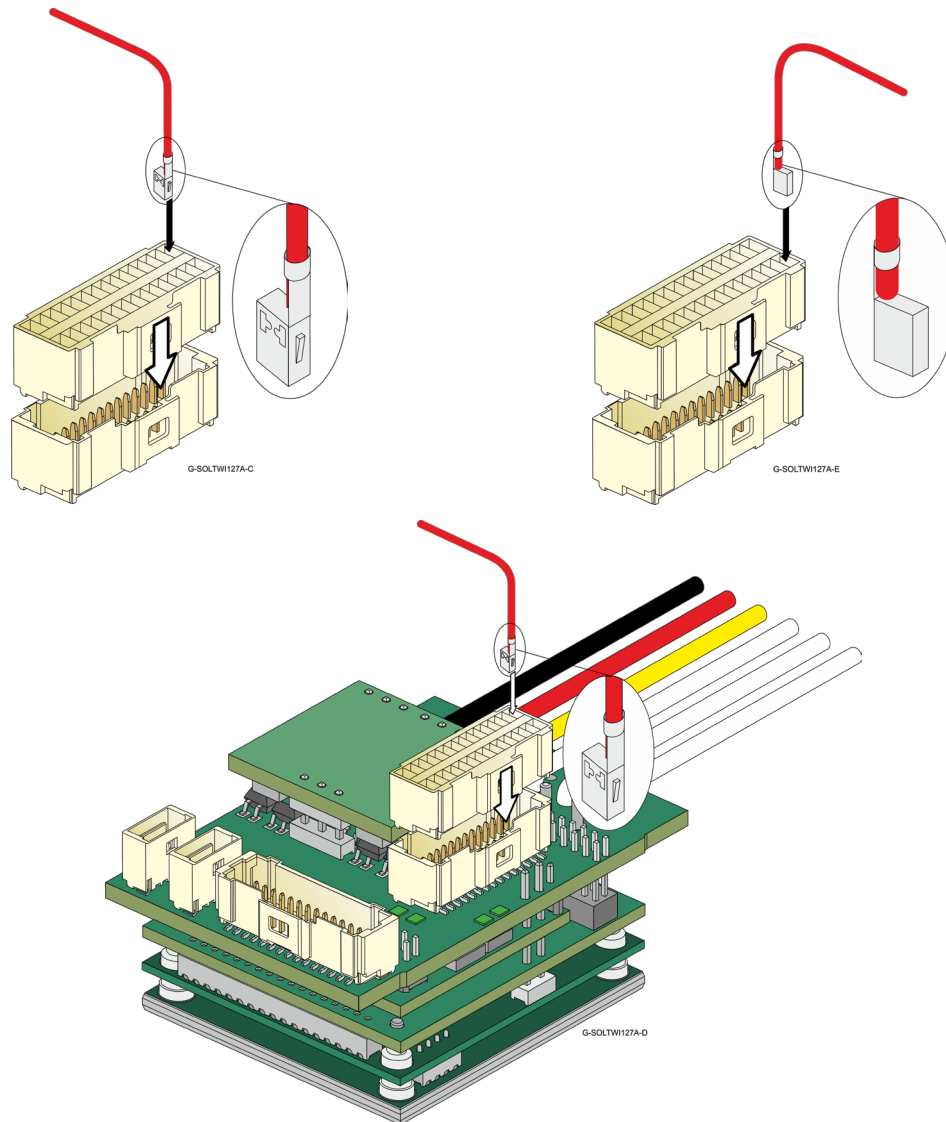

Figure 5: Inserting a wire/pin to the Female Connector
3. Place the connector on a flat surface, in the orientation as shown in Figure 5. Notice that the rectangular slot has a niche at the bottom of the slot.
4. Insert the wire connector to the slot as shown in Figure 5. Make sure that the connector protrusion is inserted to the bottom of the rectangular slot.